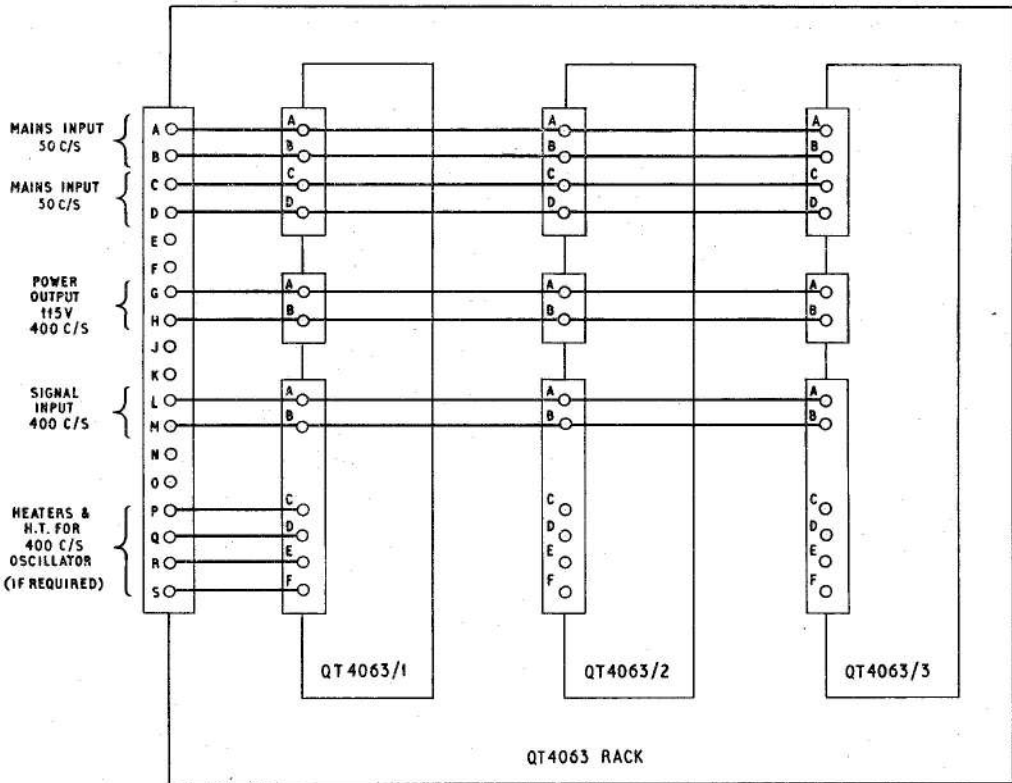

Fig. 2. Interconnections of QT4063 units
3. Two or more amplifiers may have their output terminals connected in parallel when load currents higher than 450mA are required. When used with test set, Type QT4066, three amplifiers, Type QT4063, are connected in parallel and are fed from a common 400 c/s signal generator in the test set. In this installation the amplifiers are designated QT4063/1, /2 and /3; an interconnection diagram is given in *fig. 2*.
obtained from the wipers of these potentiometers, which are adjusted so that the cathode voltages of V3 and V4 are equal. This ensures equal current sharing between the output valves. The outputs from each of the three power amplifiers are connected in parallel as shown in fig. 2.